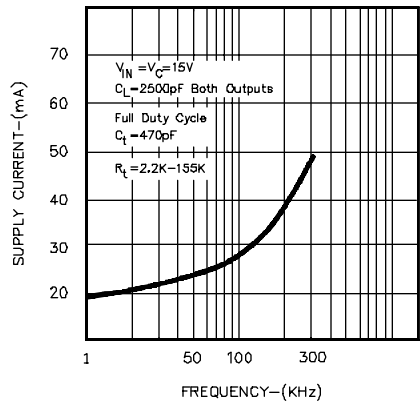

FIGURE 14. SUPPLY CURRENT VS. OUTPUT FREQUENCY
2. If more dead time is required, select a larger value of  $R_D$  using Figure 14 as a guide. At 40 KHz dead time increases by 300 ns/ $\Omega$ .